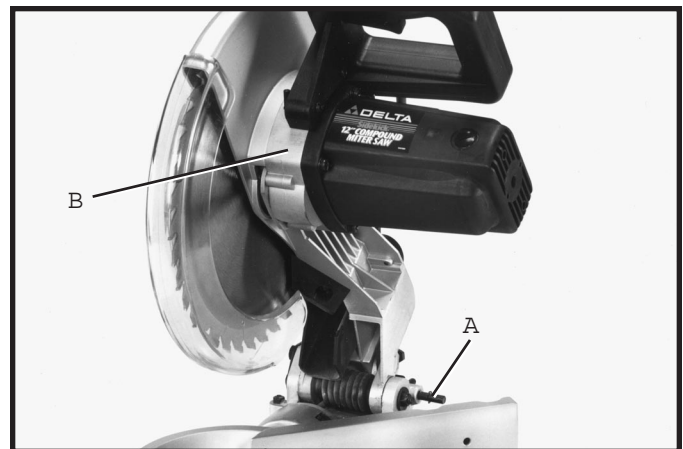

Fig. 5
2 Fig. 5, illustrates the lockpin (A) pulled out and the cuttinghead (B) in the up position.